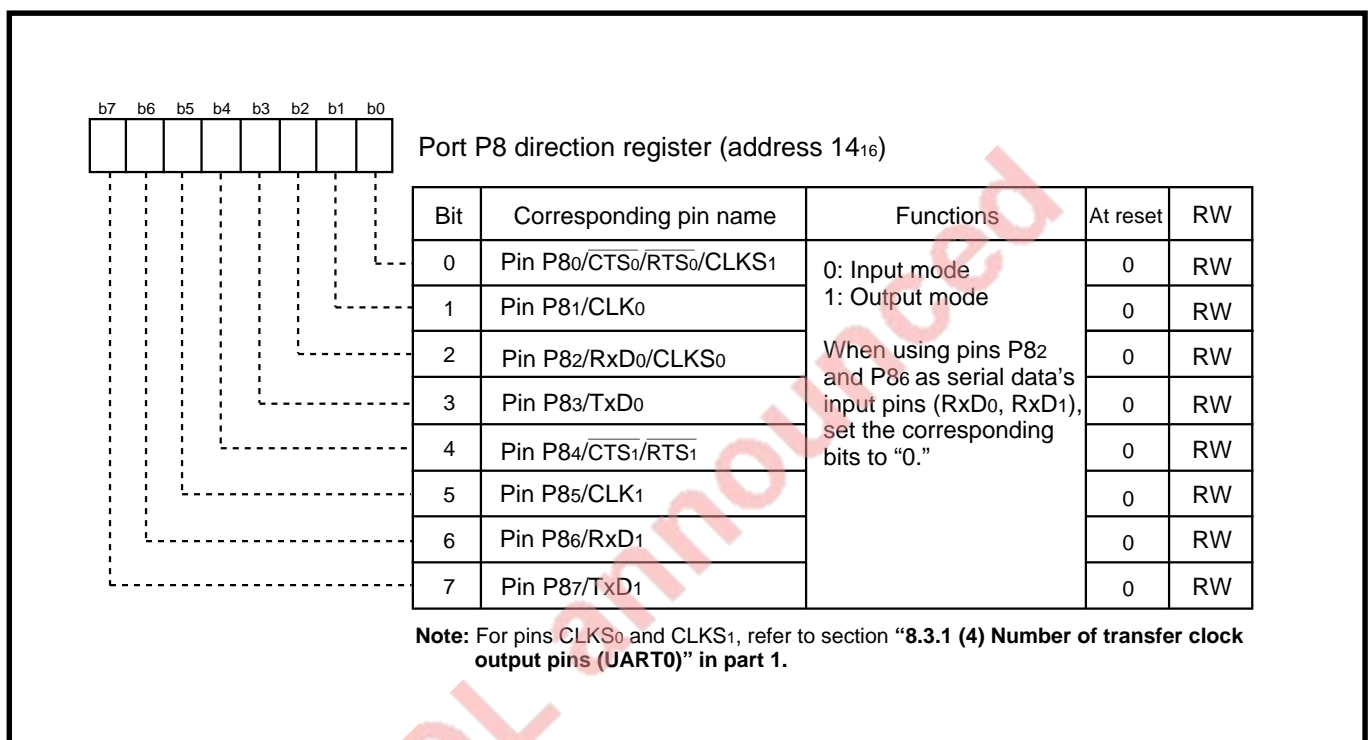

Fig. 8.2.16 Relationship between port P8 direction register and UART_i’s I/O pins
I/O pins of UART_i are multiplexed with ports P8 and P9. When using pins P82 and P86 as serial data input pins (RxD_i), set the corresponding bits of the port P8 direction register to “0” to set this port for the input mode. When using pins P80, P81, P83–P85 and P87 as UART_i’s I/O pins (CTS_i/RTS_i, CLK_i, TxDi), these pins are forcibly set as the UART_i’s I/O pins, regardless of the port P8 direction register’s contents. Also, as for CLKS₀ and CLKS₁, refer to section “8.3.1 (4) Number of transfer clock output pins (UART0)” in part 1. Figure 8.2.16 shows the relationship between the port P8 direction register and UART_i’s I/O pins.